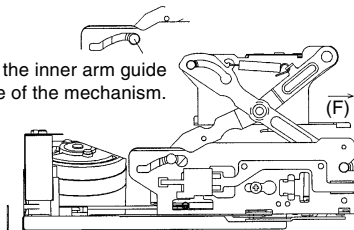
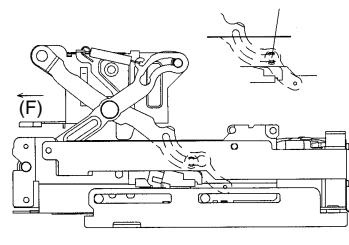

Fig.5
Fig.6
- (4) Shift the cassette controller in the direction shown by the arrow (F), remove the inner arm guide shaft L and the groove of the inner arm R toward the inside of the mechanism, and turn the cassette controller. (See Fig.5 and Fig.6.)